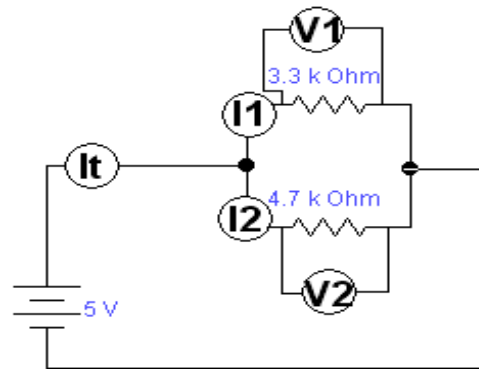

Figure 2
2. Calculate R equivalent and first calculate the values for I_t , I_1 , I_2 , V_1 and V_2 then make a circuit like Figure 2 and take measurements using a multimeter. Compare the results of measurements and calculations made!